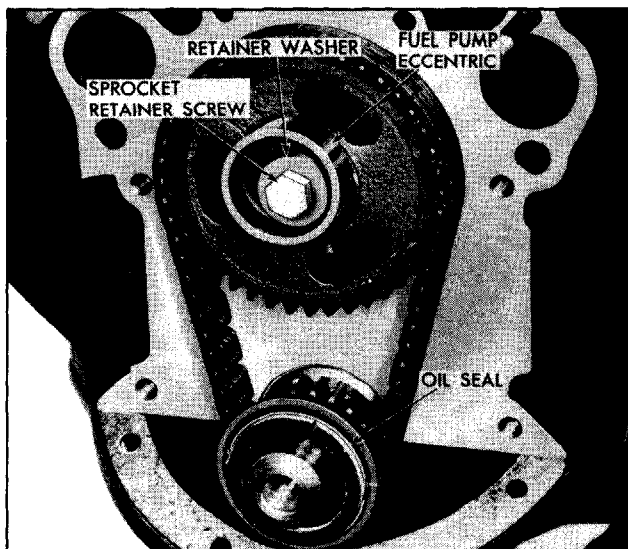

Fig. 6-24 Front of Engine with Timing Sprocket Cover Removed
19. If new fuel pump eccentric is to be installed, remove camshaft sprocket retainer screw and retainer washer and remove eccentric (Fig. 6-24). Install new eccentric, indexing pin on eccentric with hole in camshaft sprocket. Insert retainer screw with retainer washer and tighten securely.